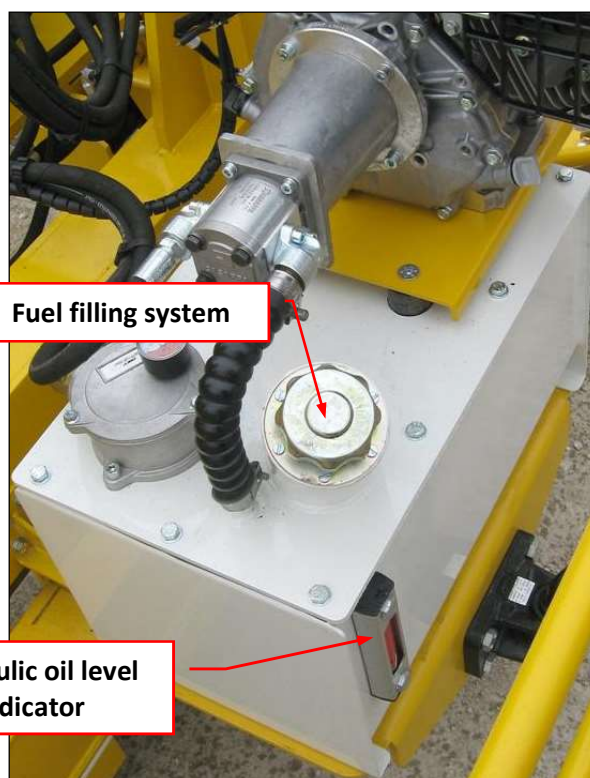

Figure 21
- Check the hydraulic oil level using the level indicator on the hydraulic tank (Figure 21).